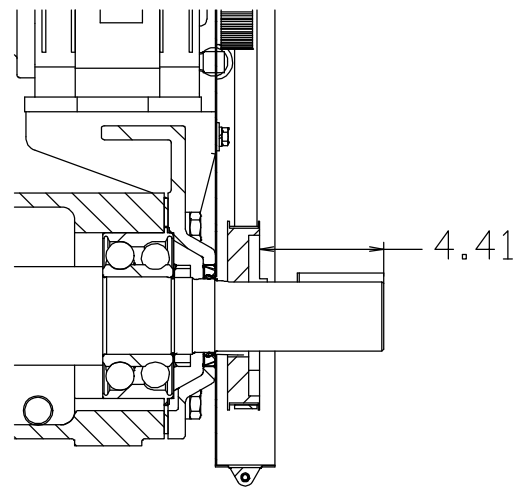

Figure 7. Drive Sprocket Positioning
Install the key (5) in the shaft keyway, making sure to leave room in the keyway for the drive key (28, Figure 3). Install the bushing (7) and sprocket (6) on the shaft to the dimension shown in Figure 7.